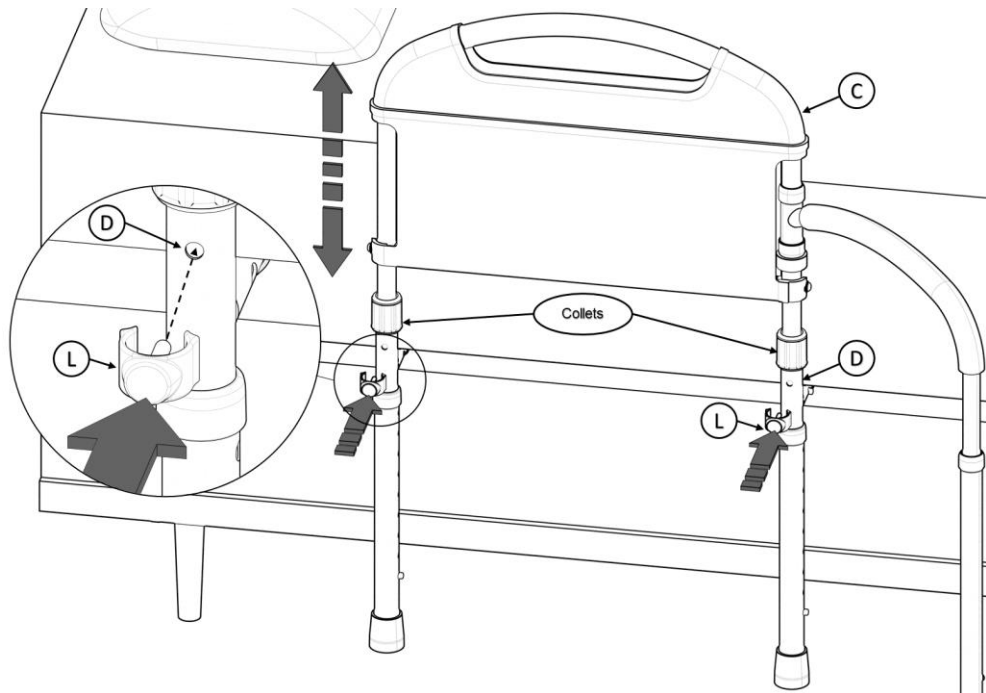

FIGURE 6
Place Product between mattress and box spring as shown in *FIGURE 6*, the height of the handle can be adjusted up or down by first, loosening the Collets by rotating them counterclockwise. Position top of handle (C) at a minimum of 4in (10.25cm) above top surface of mattress. Align holes and secure height adjustment by inserting L into C and D as shown in *FIGURE 6*. Tighten Collets by rotating clockwise.